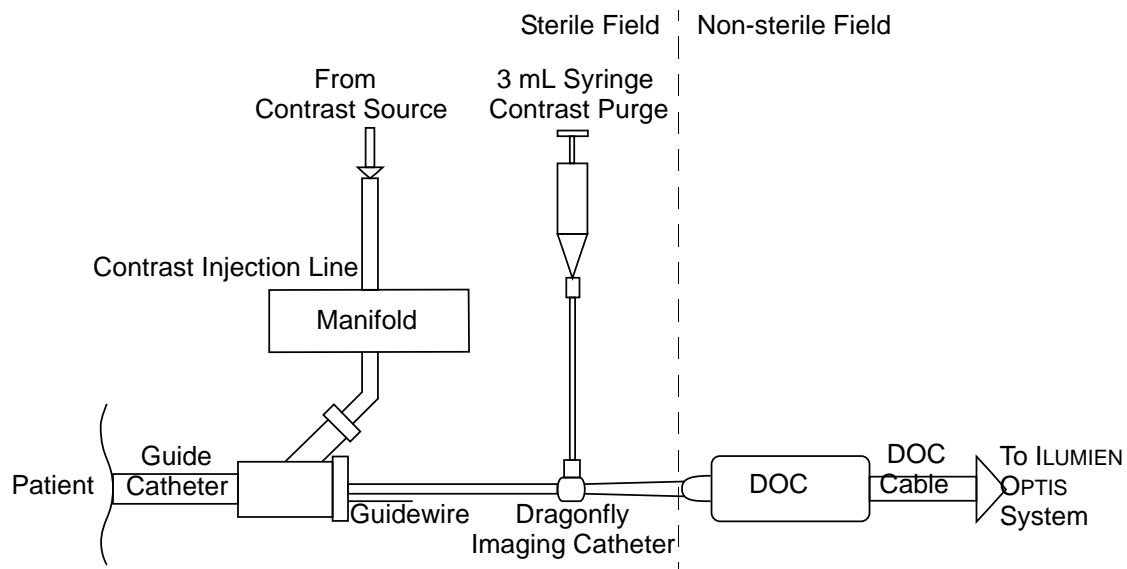

Figure 5-1: DOC Connections
3. Connect the flush media (syringe or automated injector) to one port of the guide catheter manifold (see Figure 5-1).